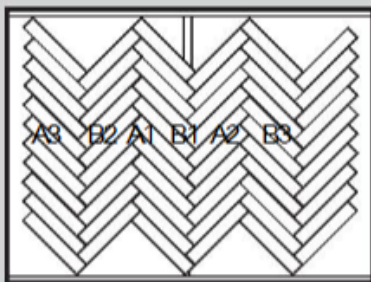

Fig 8
9. Continue with all B planks and repeat on the other side of the original "B" planks with "A" planks. Complete the room repeating the same method making sure to keep the expansion spacers in place and the pattern square (Fig 8.).